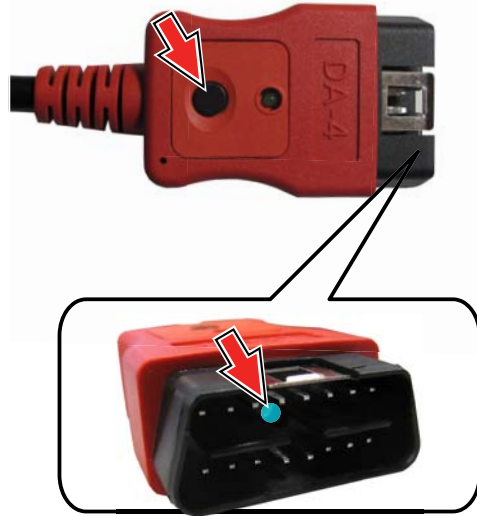

Figure 4-3 DA-4 data cable LED flashlight
The supplied 9 ft. (2.7 m) DA-4 data cable, includes an LED flashlight on the vehicle DLC connector end (Figure 4-3). The LED flashlight is powered by the diagnostic tool battery.
3. If needed, press the LED flashlight button switch on the end of the data cable to turn the LED flashlight on (Figure 4-3), and locate the DLC.